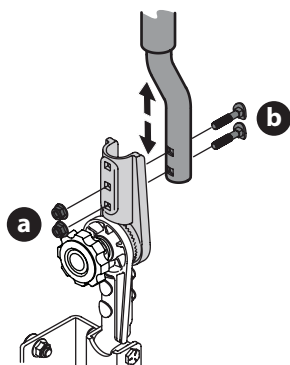

Figure 6
- Remove the flange lock nuts (a) that secure the carriage bolts (b) in the drive control levers (Figure 6).
- Remove the carriage bolts (b) from the drive control levers and reposition to the second set of holes in the mounting block (Figure 6).
- Reinstall the carriage bolts (b) and flange lock nuts (a), and tighten to 28-34 ft-lbs (38-46 N-m) (Figure 6).